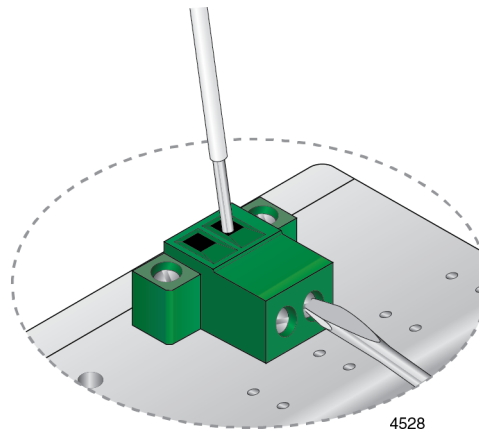

Figure 24. Connecting the Feed Wire
- Connect the negative feed wire to the terminal marked **V-** (**negative**) by inserting the wire into the terminal block and tightening the connection with a flathead screwdriver. See Figure 24.